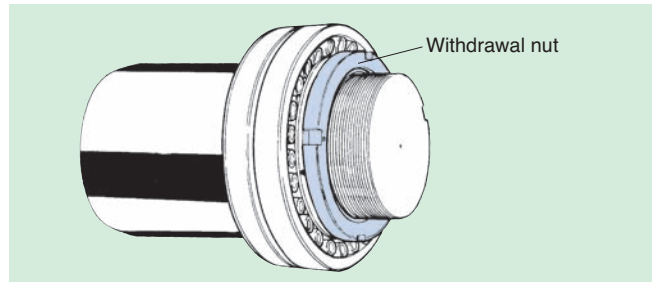

Fig. 18
- (2) Prepare a withdrawal nut that suits the hydraulic withdrawal sleeve, and install it to the thread of the hydraulic withdrawal sleeve (see Fig. 18).